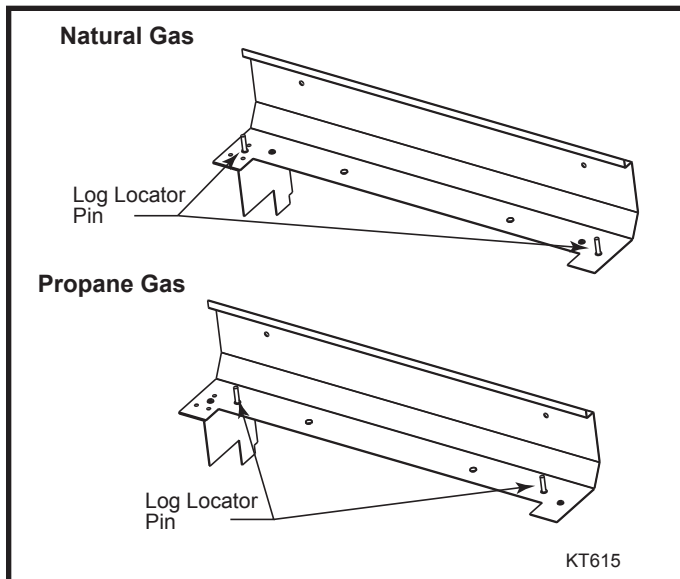

Fig. 49 Move log locator pins to new locations on rear log support.
6. **For Model 36LDVR ONLY:** Remove the rear log support and relocate the two (2) screws that locate the rear log as shown in Figure 49.